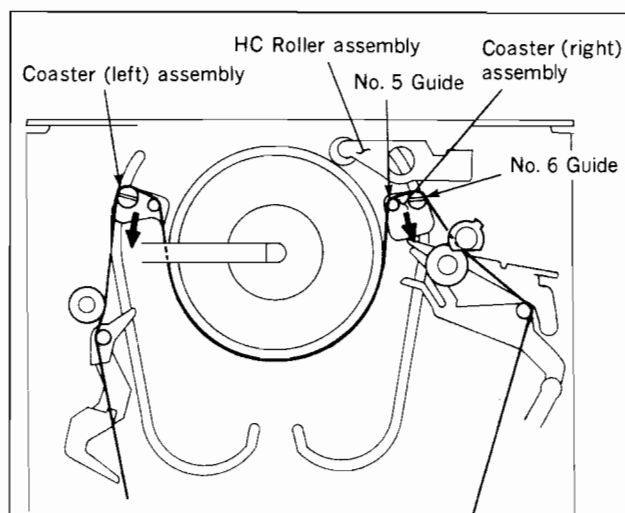

Fig. 1
8. Operate the [F FWD] or [REW] button on the top panel to unthread. (Press the [STOP] button to stop unthreading.) Move that No.5 and No.6 guides of the coaster (right) assembly in order to be placed as shown in the Fig.1. Check that the No.5 and No.6 guides are not under the HC roller assembly.
2. Touch two clips of the mode selector to the terminals of the loading motor. (Fig. 4) Operate the [LOAD] or [UNLOAD] button of the mode selector to unthread. Move that No. 5 and No. 6 guides of the coaster (right) assembly in order to be placed as shown in the Fig. 1. Check that the No. 5 and No. 6 guides are not under the HC roller assembly.
4. Turn the worm gear of the loading motor in the direction of the arrow with a thin rod etc.. (Fig. 5) Move that the No. 5 and No. 6 guides of the coaster (right) assembly in order to be placed as shown in Fig. 1. Check that the No. 5 and No. 6 guides are not under the HC roller assembly.